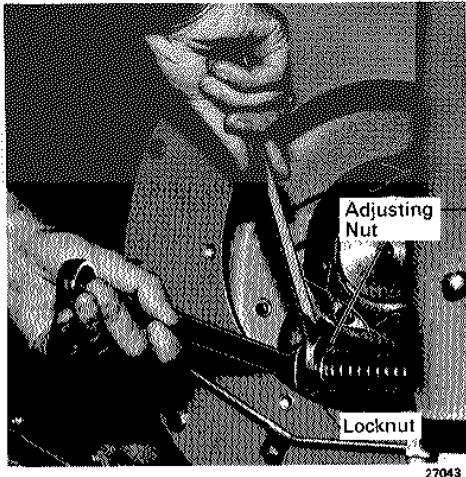

Fig. 13-3 - Overspeed Trip Adjustment
1. Back off spring tension adjusting nuts, Fig. 13-3, several turns to decrease engine speed at which overspeed trip operates.